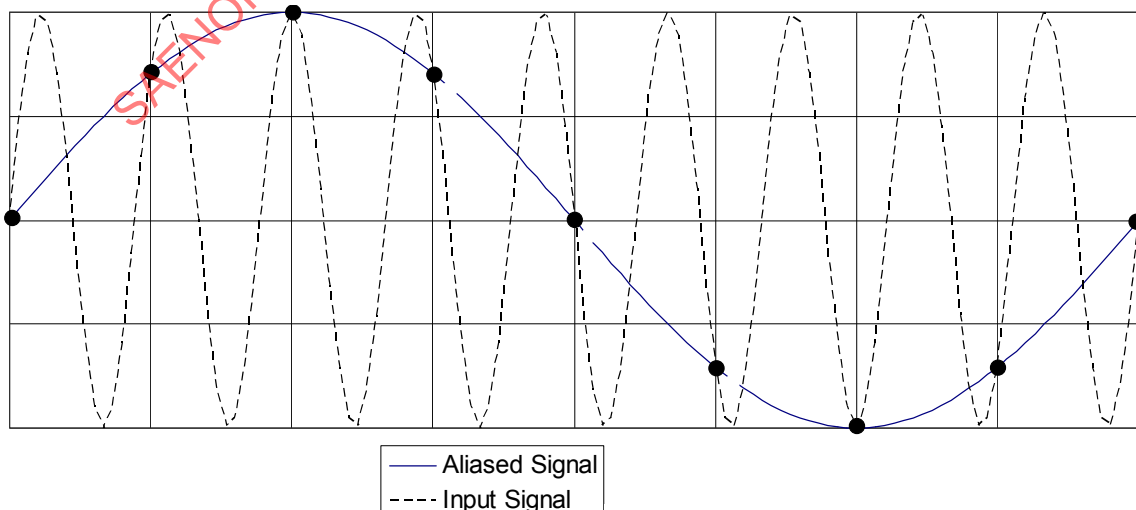

FIGURE 2 - ALIASING EXAMPLE: TWO DIFFERENT SINUSOIDS THAT FIT THE SAME SET OF SAMPLES
- Signal or noise frequencies that are higher than the sampling frequency can introduce aliasing. Refer to *Figure 2 - Aliasing Example: two different sinusoids that fit the same set of samples* for an example of an aliasing problem.